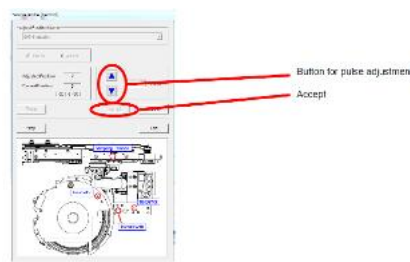

Figure 10 Incubator adjustment in the SSW window
- Klicke **“Accept”** (Abbildung 10)